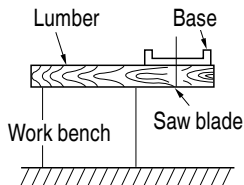

Fig. 15
4. Prepare a wooden work bench (Fig. 15)